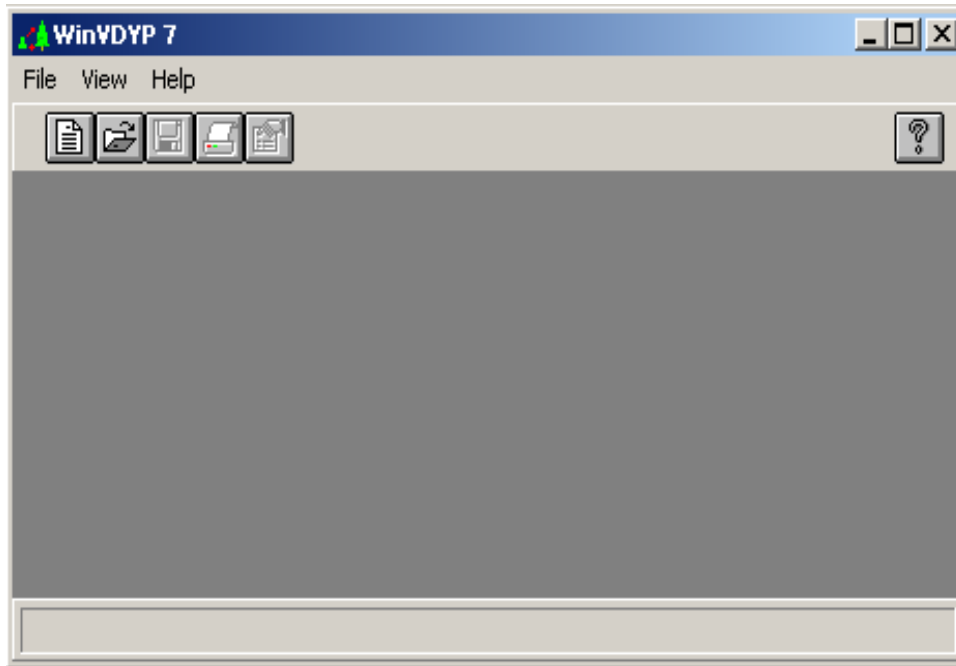

Figure 2-11: The Main Window
- Click on the system button (Figure 2-11) of the WinVDYP7 main window then select the Close item.